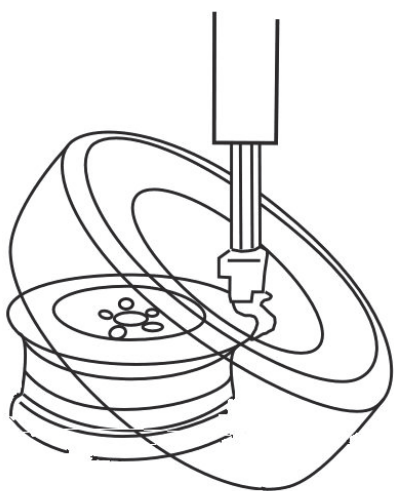

Fig.26
- Put the bead on the rim with the left side upward, press pedal A, make column back to working position (Fig.26) .